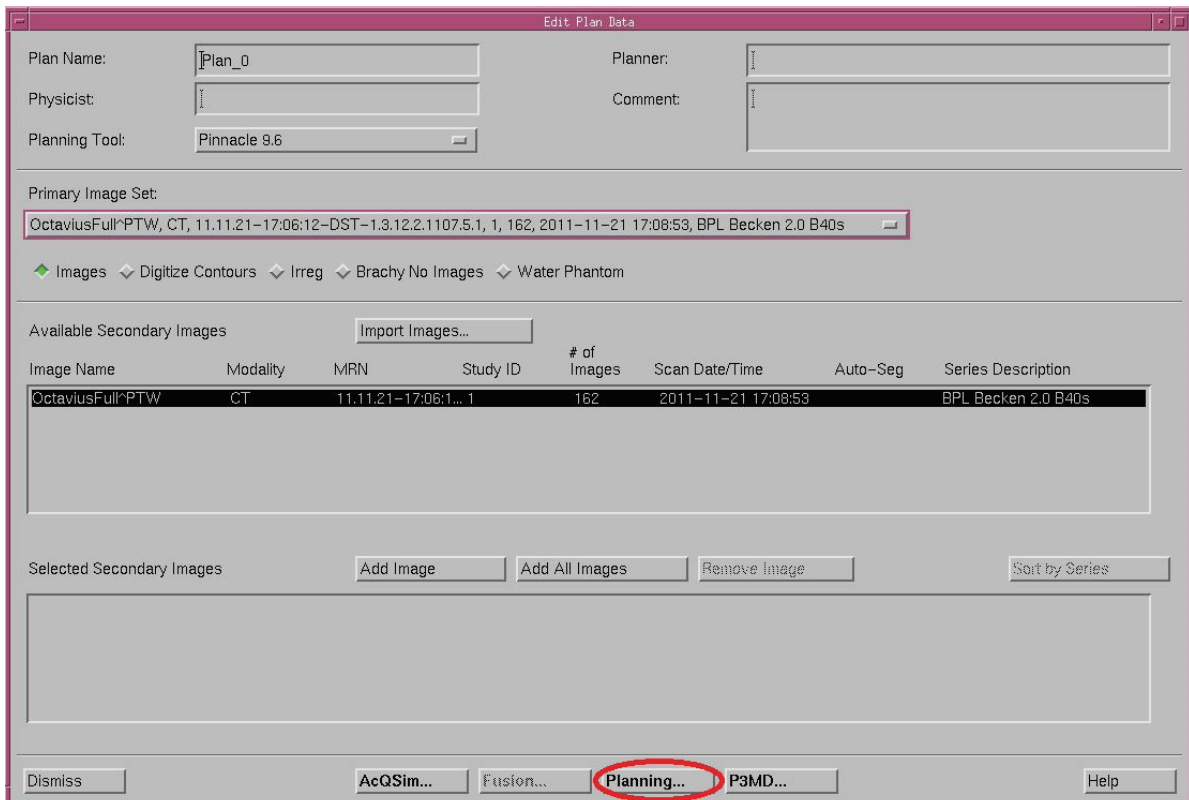

Fig. 2.7 Plan data editing
4. Click the **Planning** button to enter the treatment planning software (Figure 2.7).